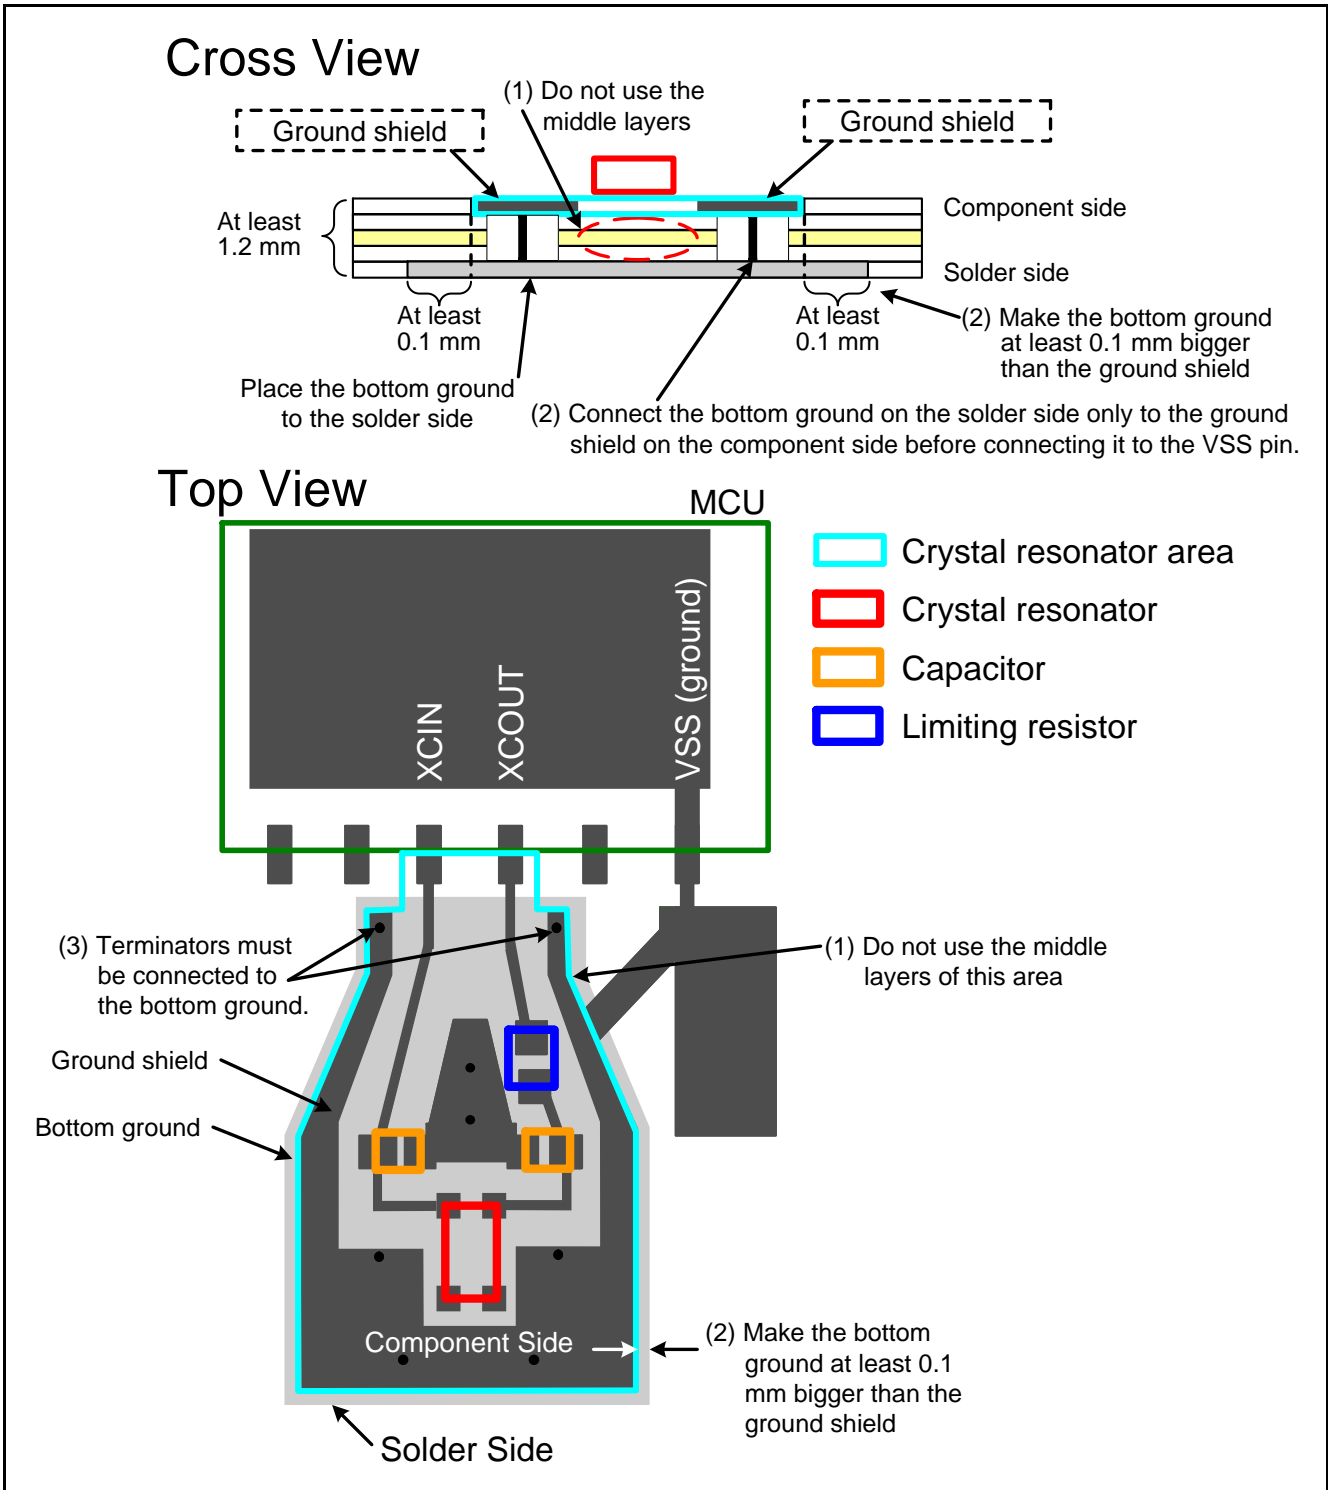

Figure 1.8 Trace Example When a Multilayered Board is at Least 1.2 mm Thick in the 100-pin, 144-pin, and 176-pin LQFP Packages
For boards that are at least 1.2 mm thick, lay out a ground trace on the solder side (hereinafter referred to as bottom ground) of the crystal resonator area (see Figure 1.8).
(1) through (3) describe points when making a multilayered board that is at least 1.2 mm thick. Figures 1.8 to 1.10 show trace examples of each package.
Do not lay out traces described in (1) through (9) (these points apply to all packages). Laying out the traces below may cause the low CL resonator to not oscillate correctly. Figure 1.8 shows a trace example.
- (1) XCIN and XCOOUT wires cross other signal wires (risk of erroneous operation).
- (2) Observation pins are attached to XCIN and XCOOUT (risk of oscillation stopping).
- (3) XCIN and XCOOUT wires are long (risk of erroneous operation or decreased accuracy).
- (4) The ground shield does not cover the entire area, and where there is a ground shield, the wiring is long and narrow (easily affected by noise, and there is a risk that accuracy will decrease from the ground potential difference generated by the MCU and external capacitor).
- (5) Ground shield is not detached near VSS pin (risk of erroneous operation from MCU current flowing to the ground shield).
- (6) Power supply or ground trace are under the XCIN and XCOOUT wiring (risk of losing the clock or oscillation stopping).
- (7) A wire with a large-current is routed nearby (risk of erroneous operation).
- (8) Parallel wiring for adjacent pins is close and long (risk of losing the clock or oscillation stopping).
- (9) The middle layers are used (risk of oscillation characteristics decreasing or signals operating erroneously).